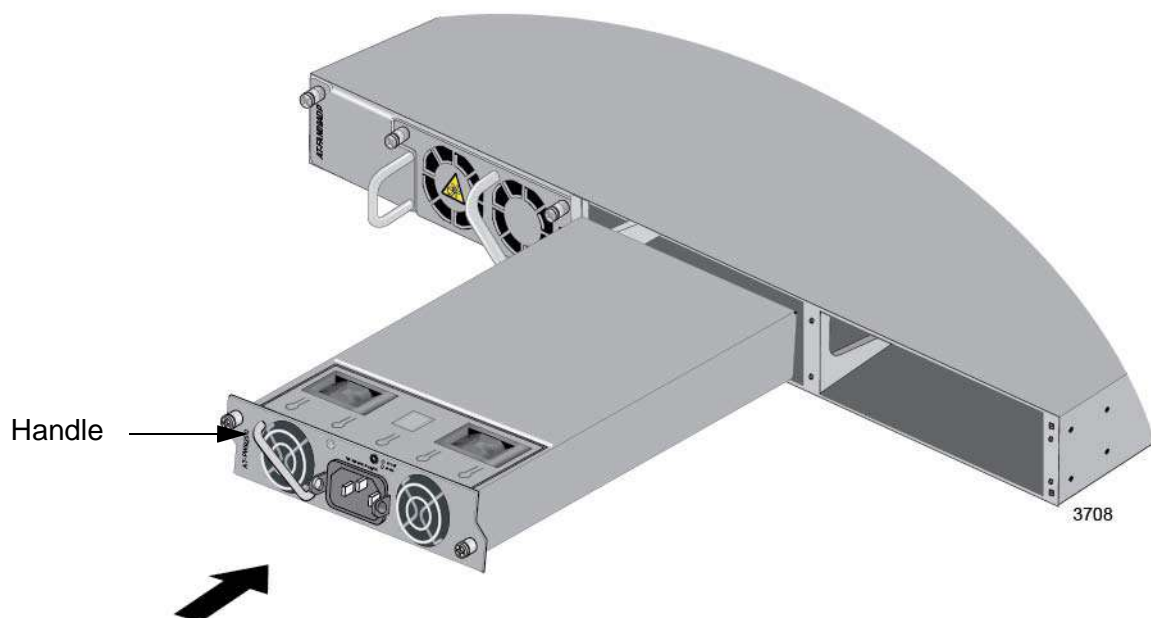

Figure 22. Installing a Power Supply
5. Slide the new power supply into slot A or B in the back panel of the switch. Refer to Figure 22 on page 69.
- ☐ The handle on the power supply should be on the left as you install the module in the switch. Refer to Figure 22 on page 69.